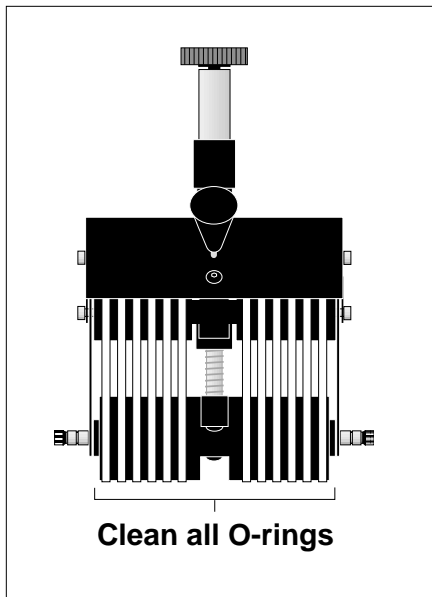
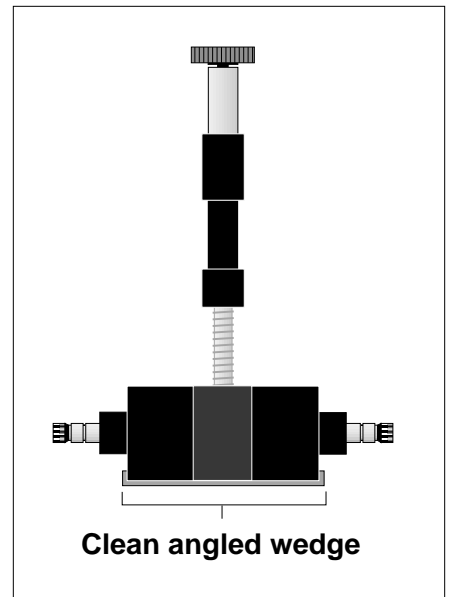

Figure 5-7. Advancing O-Ring Gate
Figure 5-9. Bar Gate
4. Wipe across O-rings (Figures 5-7 or 5-8), or angled wedge if applicable (Figure 5-9). First wipe in one direction, then the other.